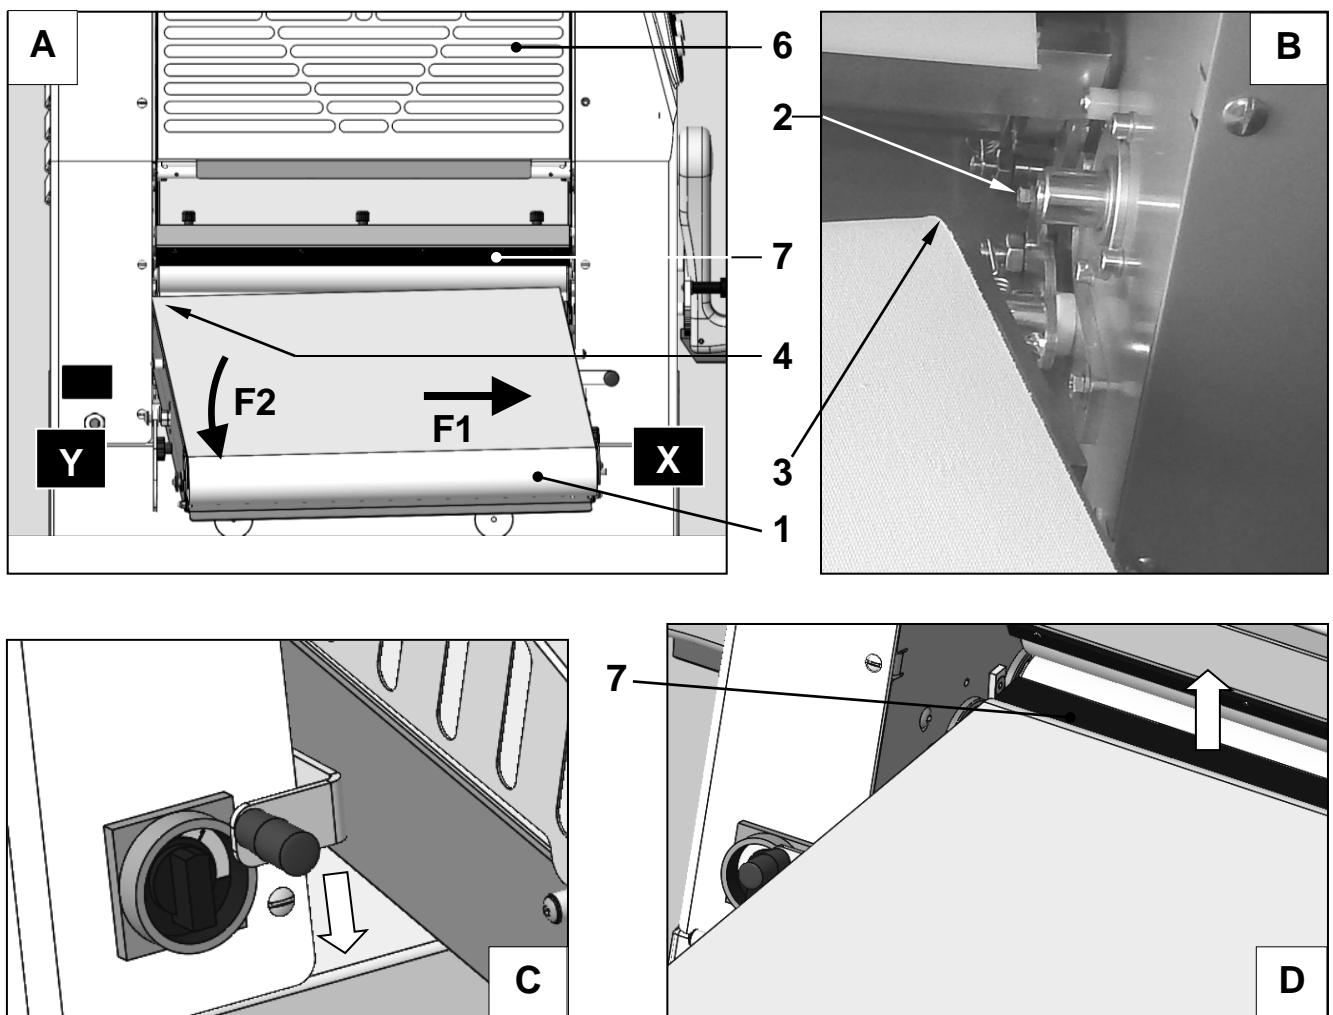

Fig. 4.3
With reference to Fig. 4.3, completely raise the guard ref. 6 (see also par. 4.5) from the side of the bench to be disassembled (photo A) and remove the scraper ref. 7 (par. 7.3 and par. 7.3.2). Operators must stand at the sides of the bench and hold it at points far enough apart so as to be able to easily support it once detached.